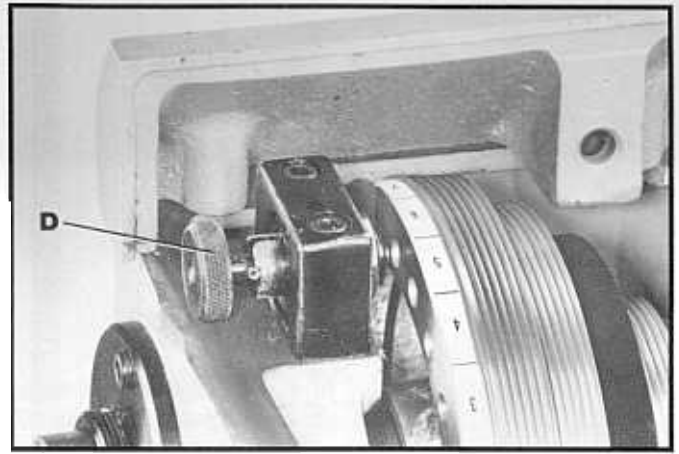
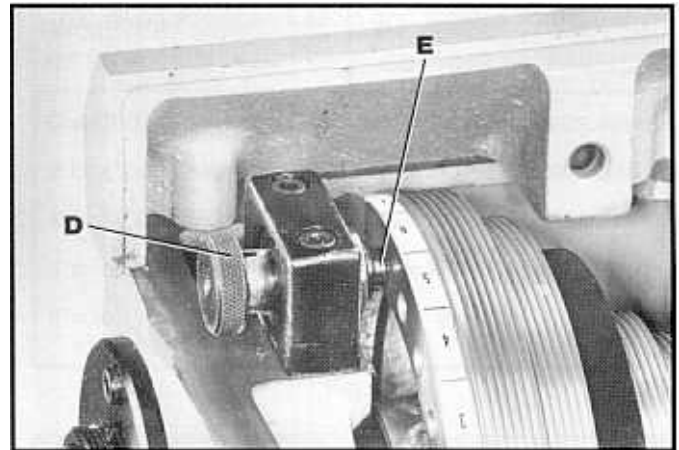

Fig. 40
Fig. 41
2. Pull out and rotate knob (D) Fig. 40, to allow pin (E) Fig. 41, to engage one of the desired indexing holes on the rim of the spindle pulley as shown.
3. To disengage the indexing pin when operating the lathe, pull out and rotate knob (D) Fig. 40, until roll pin (F) is in the horizontal position. The indexing pin will then be locked in the out position as shown.